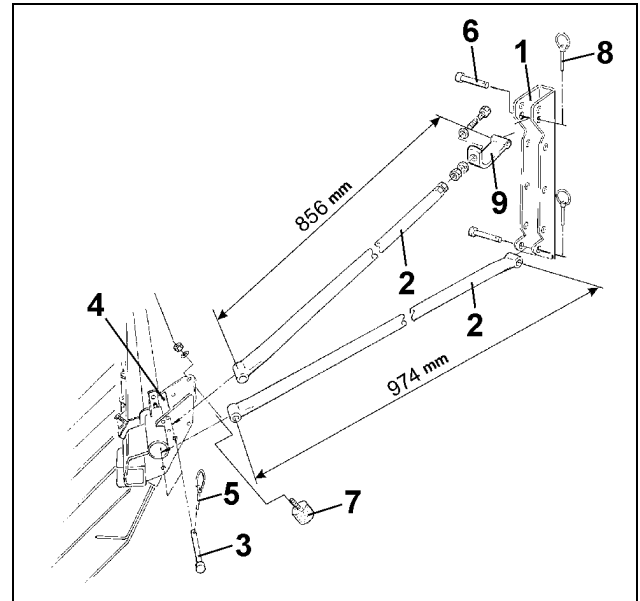

Fig. 24
- Bolt on swing-metal buffers (Fig. 24/7).
- Fit carrying tubes (Fig. 24/2) with pins (Fig. 24/3) to the retainers (Fig. 24/4) of the extra coverage following harrow and secure with clip pins (Fig. 24/5).
- Fix carrying tubes (Fig. 24/2) with pins (Fig. 24/6) on the pockets (Fig. 24/1) and secure using clip pins (Fig. 24/8).